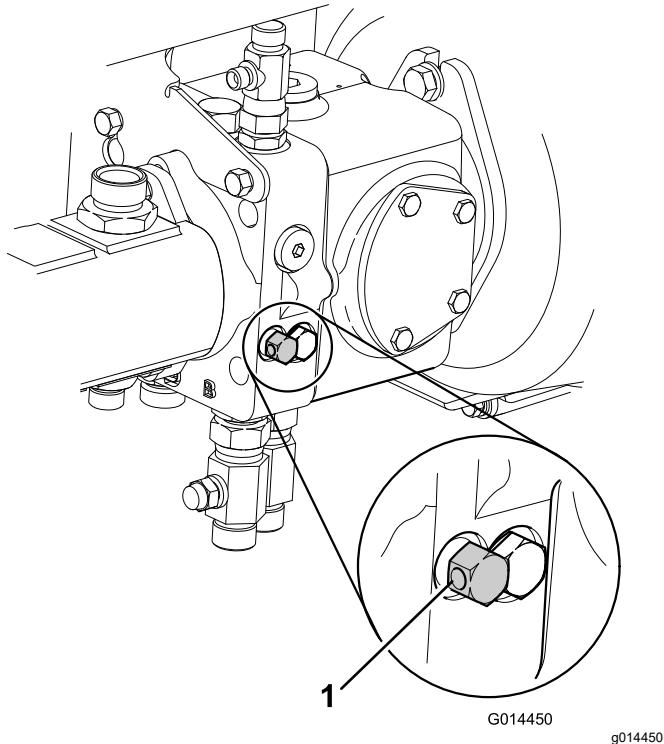

Figure 46
1. Decommission the hydraulic service braking system by turning the bypass valve (located under the transmission pump) counterclockwise (Figure 46), a maximum of 3 turns.